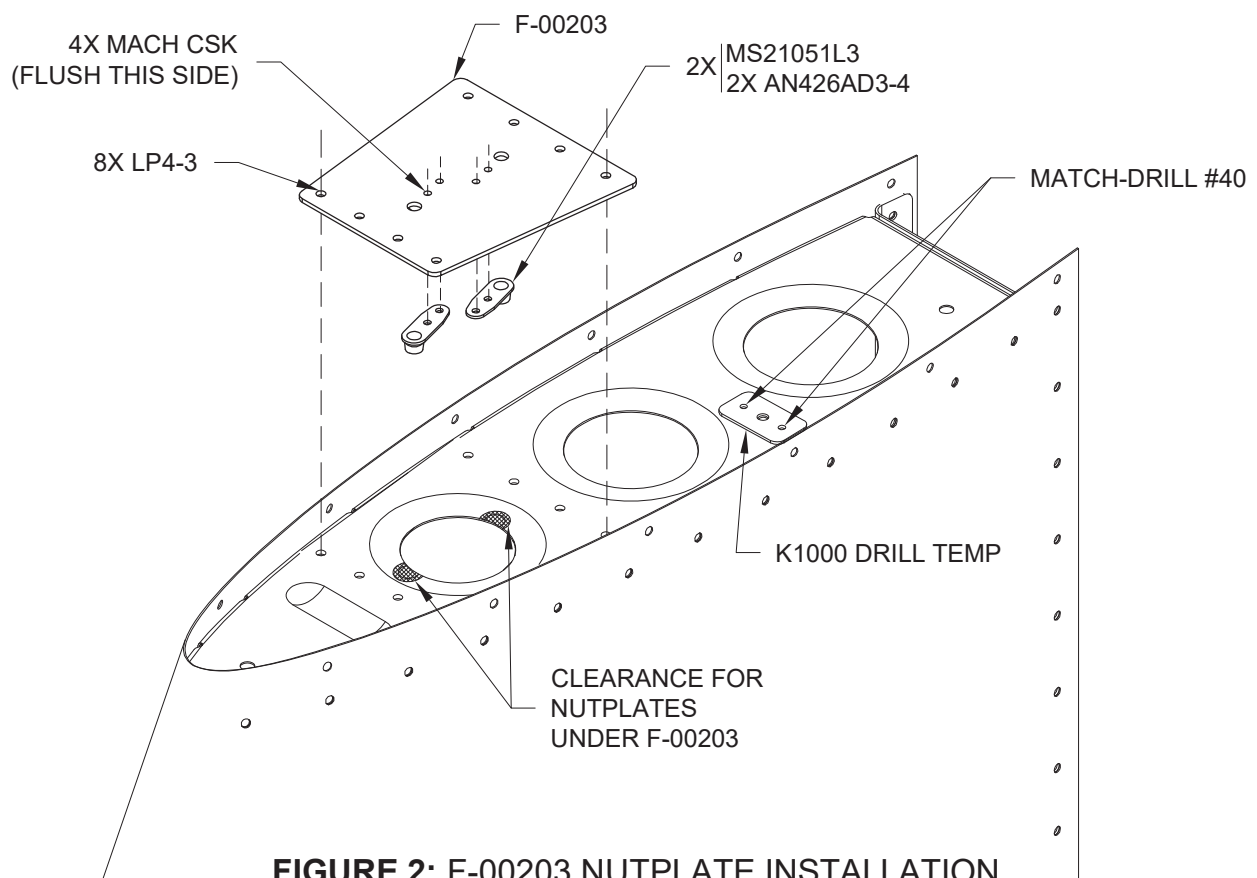

FIGURE 2: F-00203 NUTPLATE INSTALLATION
- Step 6: Machine countersink the #40 holes in the F-00203 as shown in Figure 2.
Step 7: Rivet the nutplates to the bottom of the F-00203 as shown in Figure 2.
Step 8: Using the marks made in Step 3 as a starting point, trim away the inside edge of the lightening hole in the VS-1205 to clear the nutplates installed under the F-00203. See the hatched area in Figure 2.
Step 9: Rivet the F-00203 to the VS-1205 as shown in Figure 2.